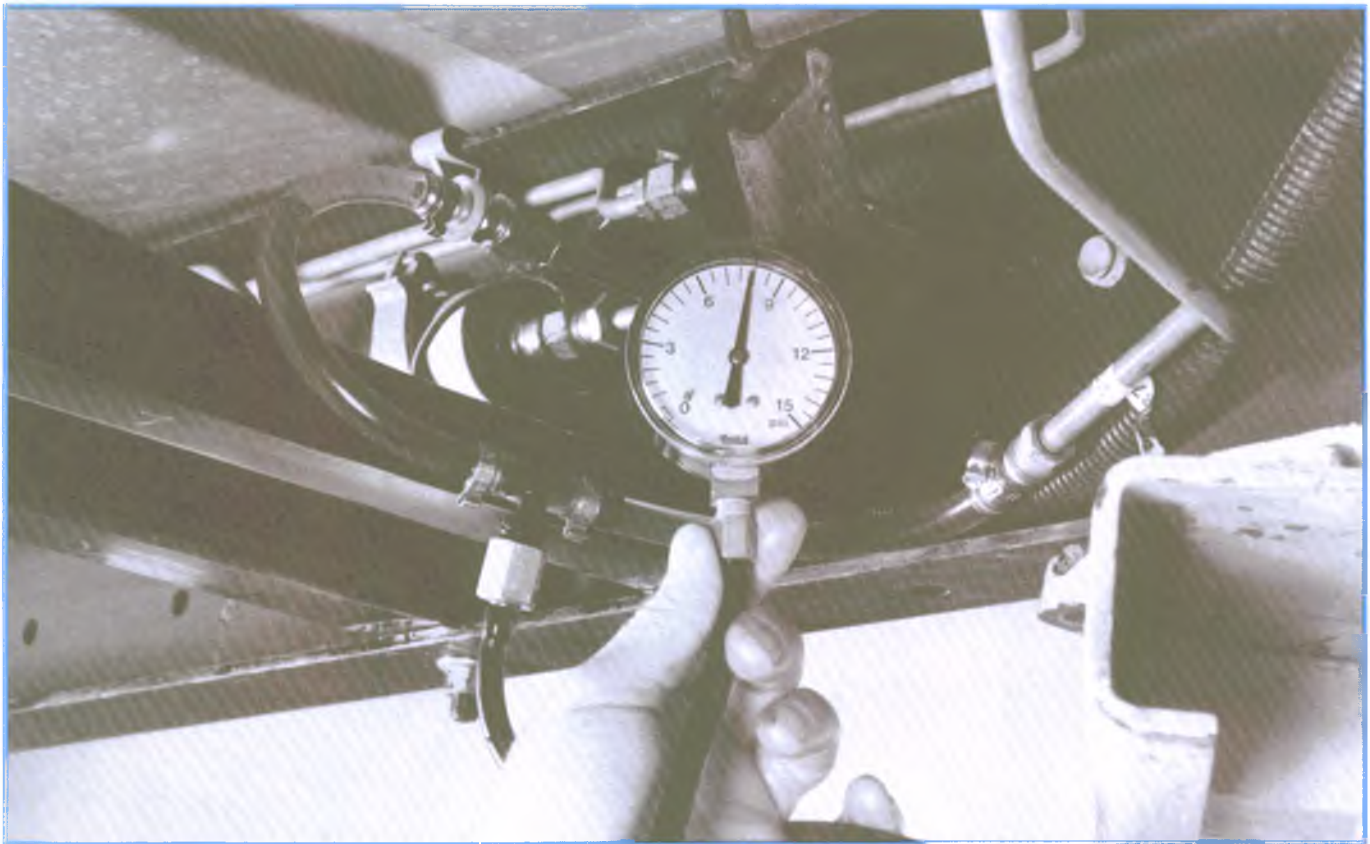

Figure 7-64, Pressure Check at Lift Pump Outlet
- C. Run the engine and measure the fuel pressure (see Figure 7-64):